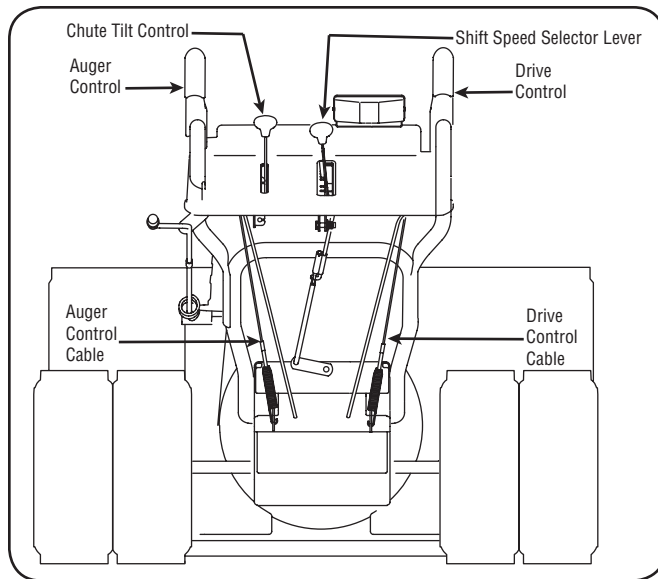

Figure 3-11
When the auger control is released and in the disengaged “up” position, the cable should have very little slack. It should NOT be tight. Refer to Fig. 3-11.
1. With the engine turned off, move the shift lever into sixth (6) position. Refer to Fig. 3-11.
1. From beneath the handle, pull downward on the appropriate cable and unhook the spring found on the end of the cable from its respective actuator bracket. Refer to Fig. 3-11 and 3-12.